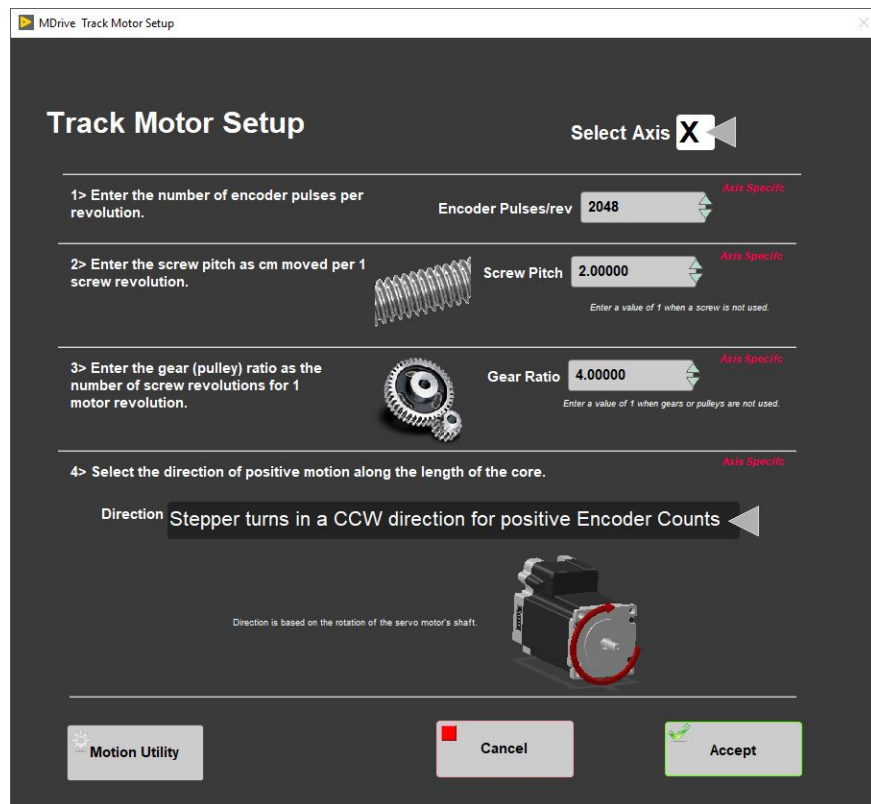

Figure 22. NGR Motor and Track Options Setup window
- Make sure to use the values shown for the NGR (Figure 22).